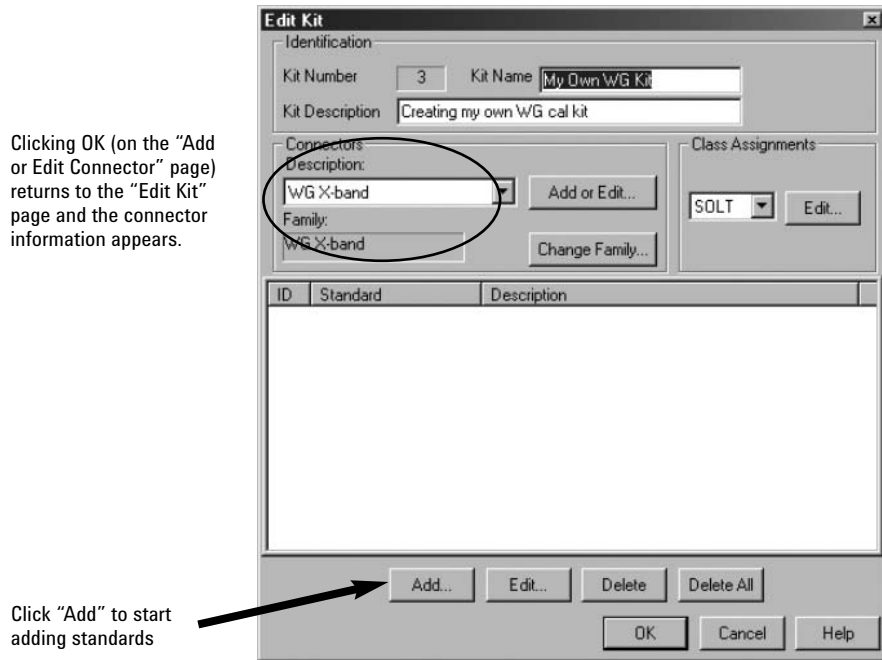

Figure 29. Completed connector description, and start adding standards.
- Click **OK**. This returns to the "Edit Kit" page (name of the page is shown on the upper-left corner of the dialog box). Click "Add" to start adding standards (Figure 29).